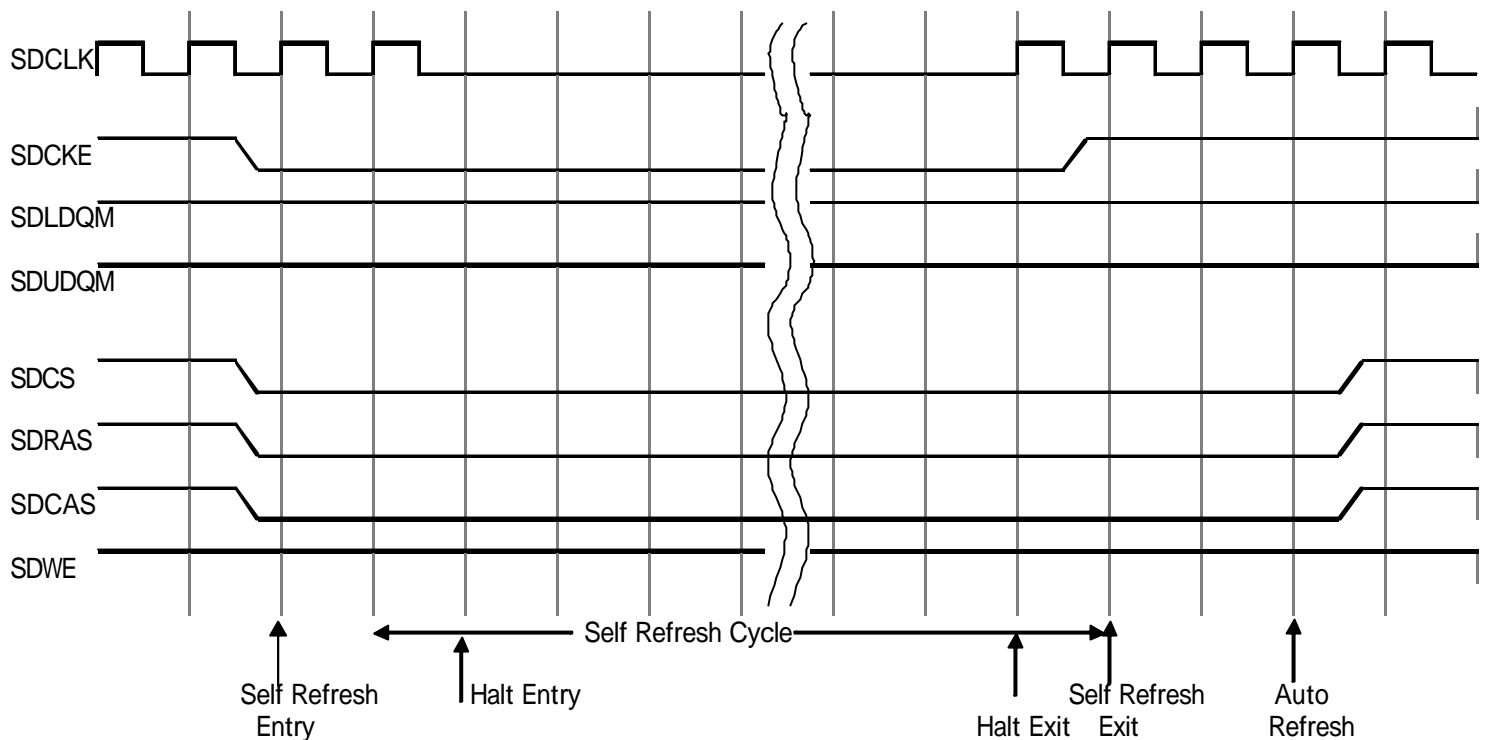

Fig. 3.16.2(8) Self Refresh Cycle
Furthermore, TMP91C820A can generate a self refresh cycle. The timing of a self refresh cycle is shown in Fig. 3.16.2 (8).
If SDRCR <SFRC> is set to "1", the self-refresh cycle shown in Fig. 3.16.2 (8) will occur.